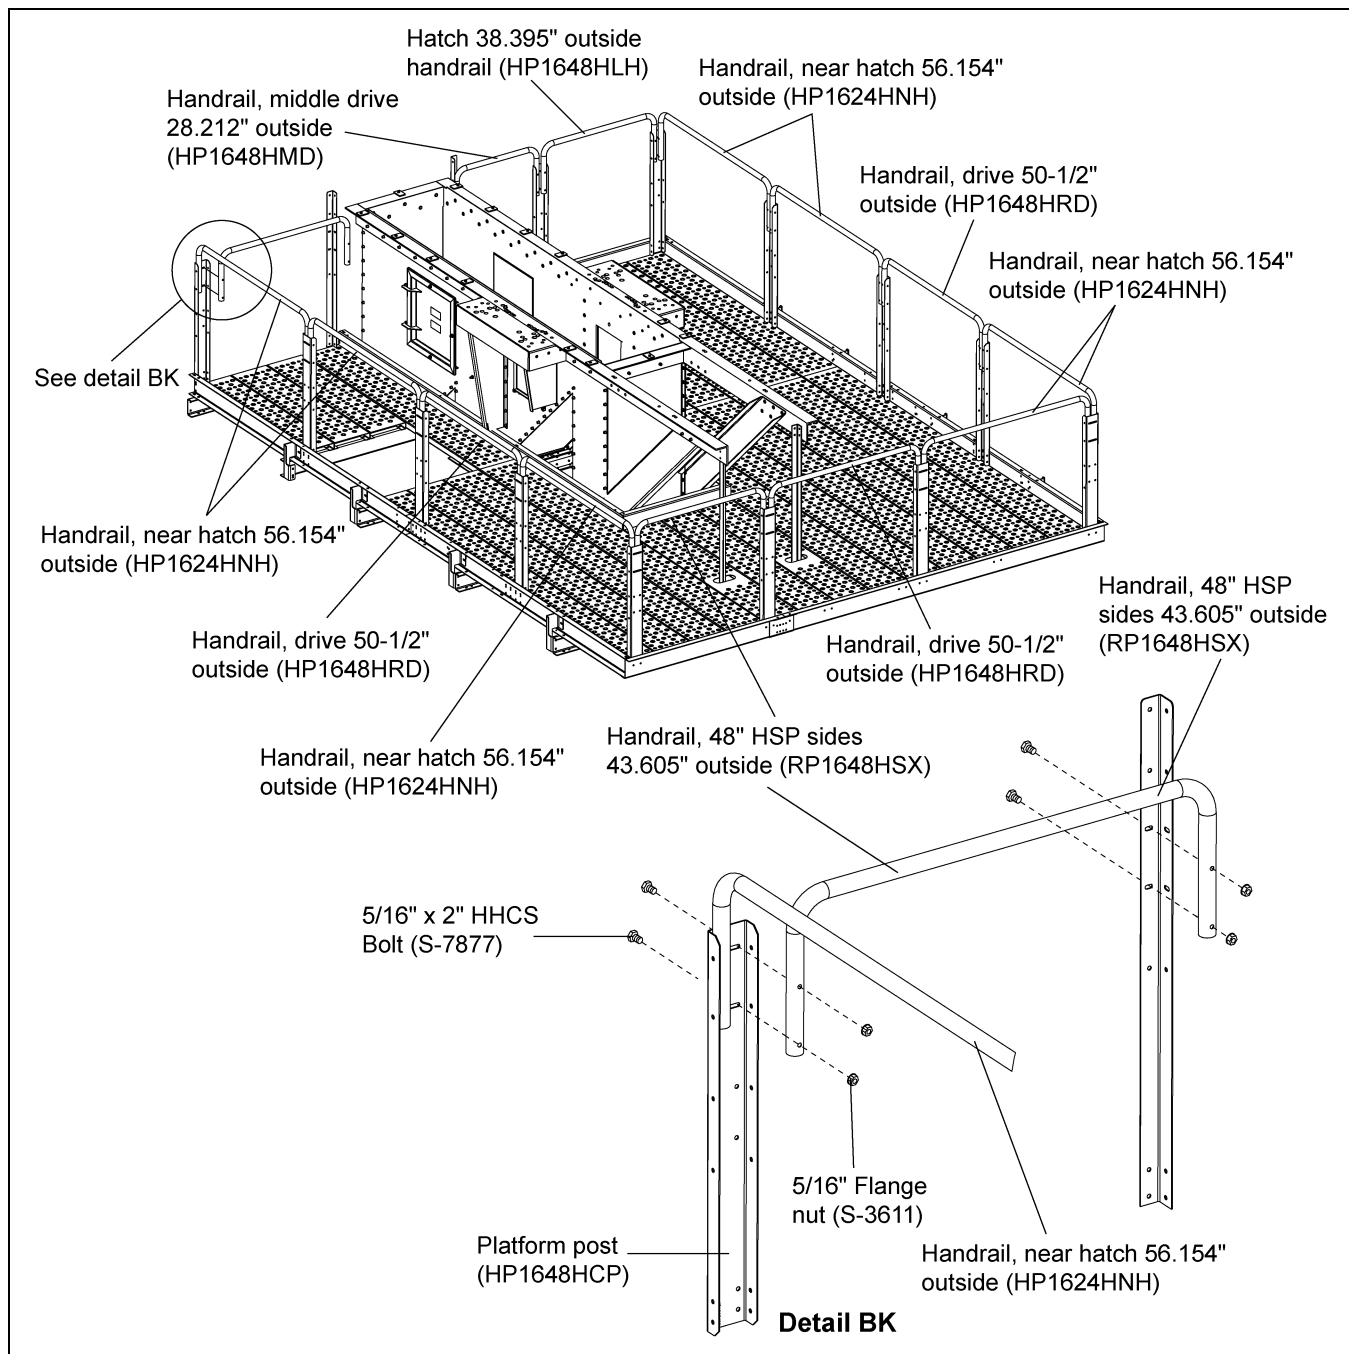

Figure 9R
1. Loosely install handrails to the top of the posts (HP1648HCP) as shown in Figure 9R using 5/16" x 2" HHCS bolts (S-7877) and 5/6" flange nuts (S-3611).
2. Once all handrails are in place, fully tighten platform posts to the toe boards and fully tighten the handrails to the posts. (See Figure 9R.)